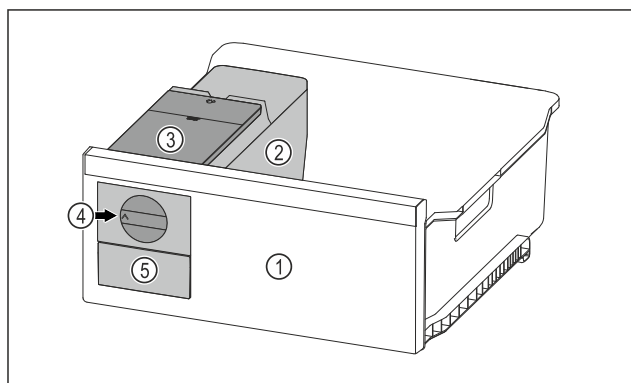

Fig. 70 Example illustration
- Turn the rotary knob *Fig. 70 (4)* clockwise as far as it will go.
- ▷ Ice cubes fall from the ice cube tray into the ice cube drawer *Fig. 70 (5)*.